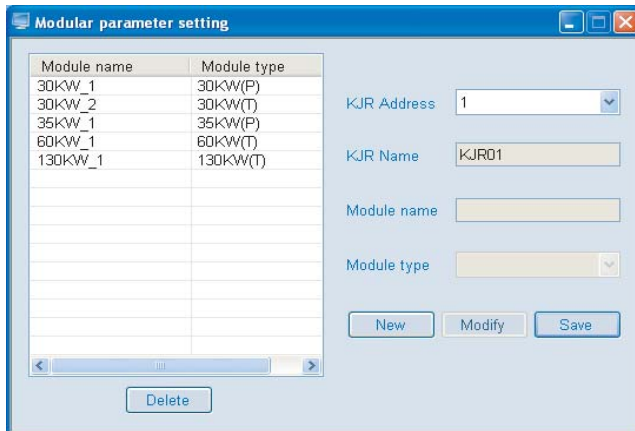

Fig.4-28
- ②Click the " Module parameter setting", a window as Fig. 4-28 will pop up: add module group under connect with the wire controller